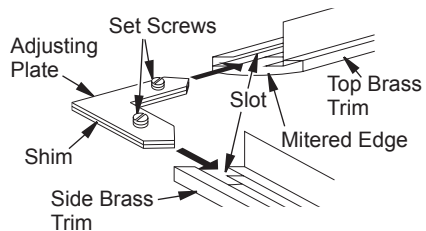

Figure 14 - Assembling Brass Trim
- Align shim under adjusting plate as shown in Figure 14.
- Slide one end of adjusting plate/shim in slot on mitered edge of top brass trim (see Figure 14).
- Slide other end of adjusting plate/shim in slot on mitered edge of side perimeter trim (see Figure 14).